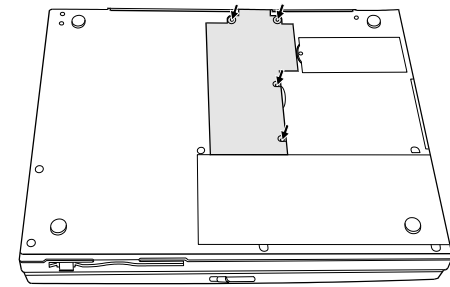

Figure 5-7. Removing the CPU Compartment Cover
4. Replace the CPU compartment cover and secure with four screws.(fig 5-7)
2. Open the CPU compartment cover by removing four screws and lifting up the cover from one side. (fig 5-7)
5. Replace the CPU compartment cover and secure with four screws. (fig 5-7)
1. Open the CPU compartment cover by removing four screws and lifting up the cover from one side.(fig 5-7)
2. Replace the compartment cover and secure with four screw. (fig 5-7)